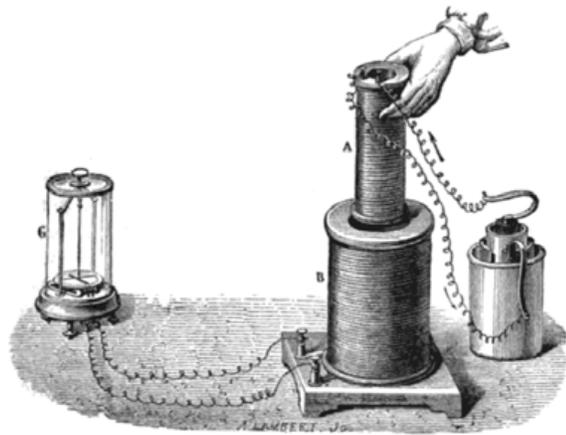

Fig. 5
Over the next 20 years or so, Faraday carried out literally thousands of experiments aiming to discover just what electricity and magnetism really were. One of his better known experiments is illustrated in Figure 5. This experiment dates from about 1831 and demonstrates his discovery that any change in the linkages between the lines of magnetic force (See **Basic Magnetism** below) and the turns of wire in his coil, would produce a small
4. For simplicity, it is assumed in Figure 5 (Page 8) that there are 3 cells of 2 Volts each, making 6 volts total.